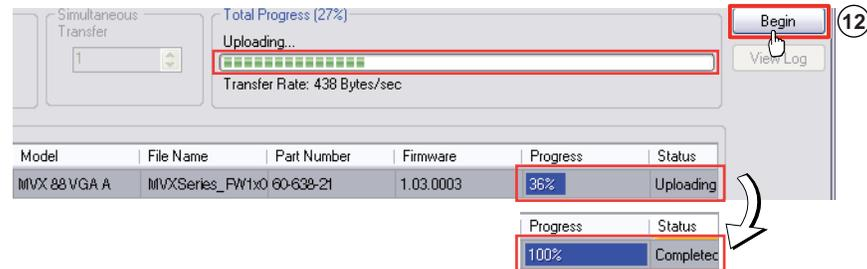

Figure 34. Firmware Loader Screen
12. In the Firmware Loader window, click **Begin** (see figure 34).